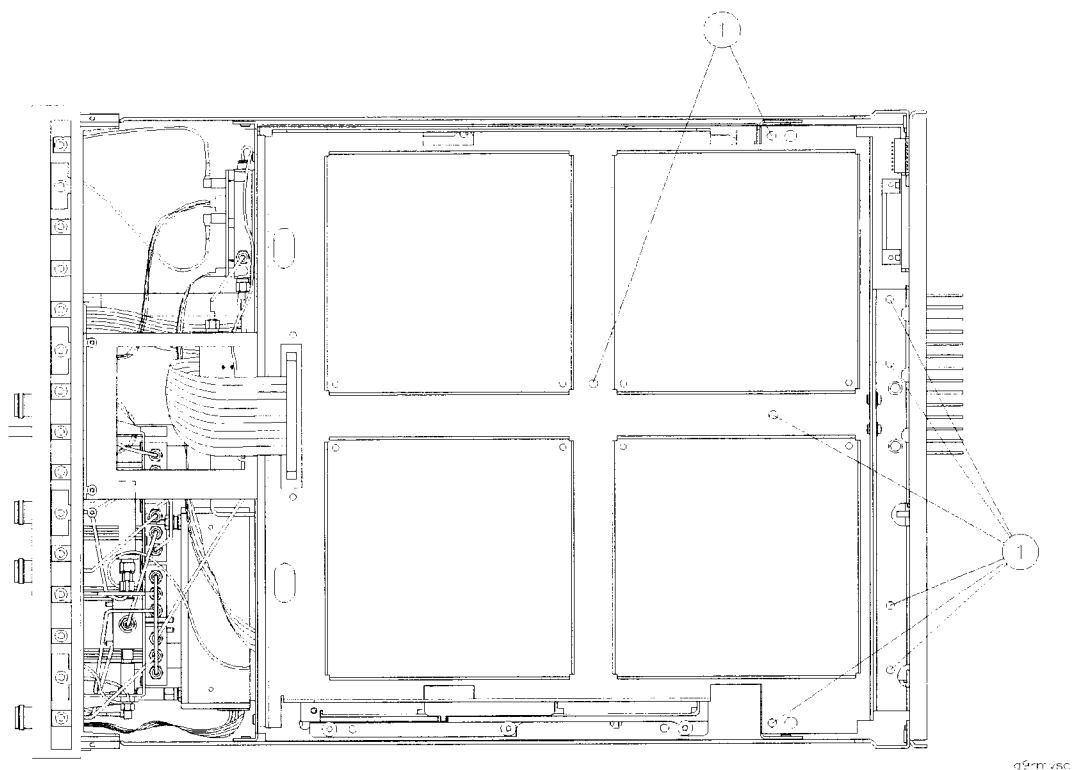

Figure 4-20 A9 HF Filters Replacement, Removing Lid Screws
3. Remove eight screws on the front to access the components underneath the top lid (1). Refer to Figure 4-20 on page 4-41.
4. Disconnect the five cables that go to the A9 HF Filter assembly (2). Refer to Figure 4-20 on page 4-41.
5. Disconnect the ribbon cable (3) from the HF filter assembly.
6. Remove the six screws that attach the HF filter housing to the front strut (4).
8. Remove the 12 screws that attach the covers to the HF filter housing and remove the covers (5).
5. Replace the 12 screws that attach the covers to the HF filter housing (5). Refer to Figure 4-20 on page 4-41.
7. Connect the ribbon cable (3) to the HF filter.
8. Replace the six screws that attach the HF filter housing to the front strut (4).
9. Connect the five cables that go to the HF filter assembly (2).
10. Replace the eight screws on the front (1). Refer to Figure 4-20 on page 4-41.